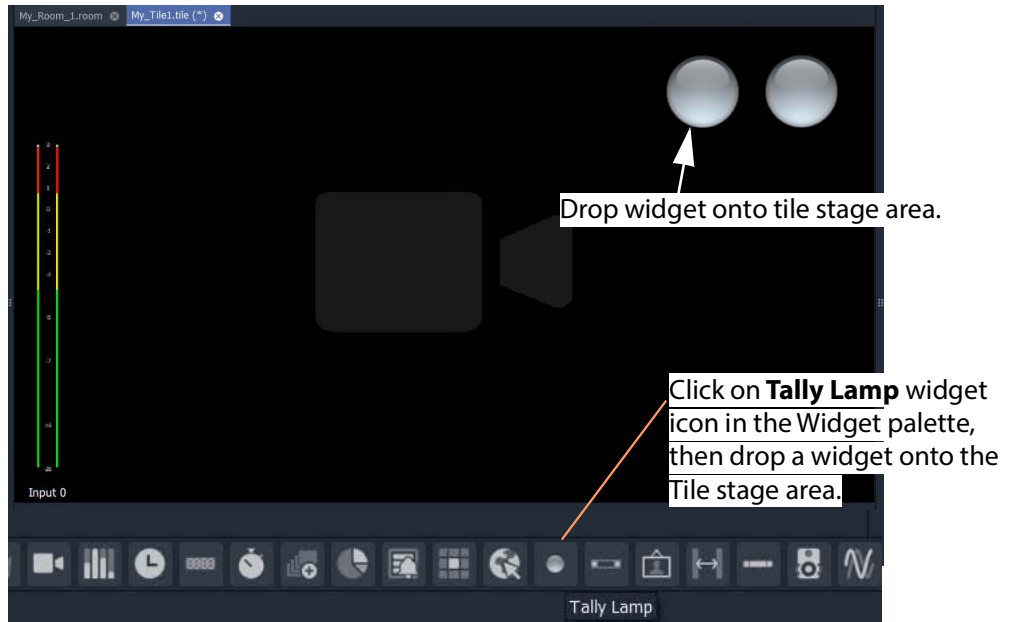

Fig. 17-20: Added Tally Lamp Widget(s)
- 1 Click on the **Tally Lamp** icon in the **Widget Palette** and drop on a **Tally Lamp** widget. repeat for a second one if required. See Figure 17-20.